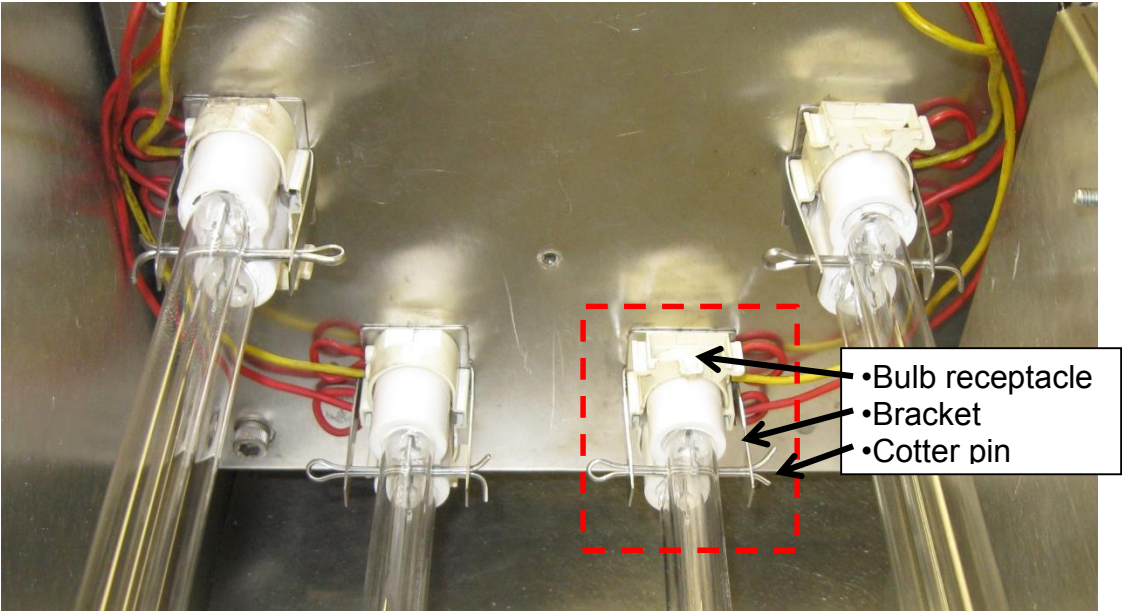

Figure 9: Bluezone® Model 2400 with Cover Removed, Bulb Base Detail
- 7) Carefully cut the cotter pins with the wire cutting pliers, throw pieces away (See Figure 9)